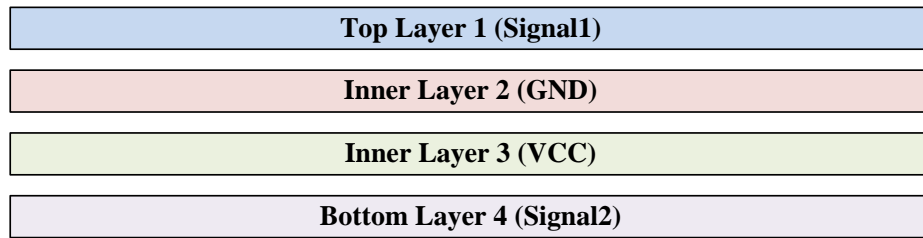

**Figure 20. Four-Layer Board Stack-Up**
9. Due to high frequencies associated with the USB, a printed circuit board with at least four layers is recommended; two signal layers separated by a ground and power layer as shown in Figure 20.